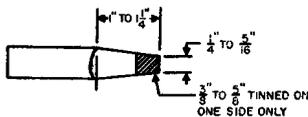

FIGURE 4.
- a. File approximately half an inch (3/8" to 5/8") of the surface of one side of the tip until it is bright and clean. See Figure 4.